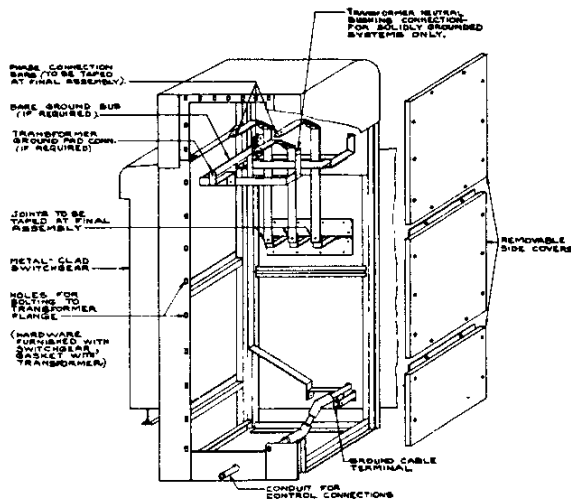
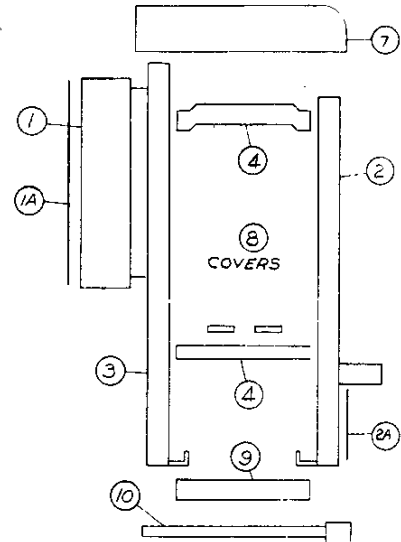

FIG. 19 (261C416)
FIG. 20 (453A738)
Transition compartments for outdoor unit substations may be one of two types (Figs. 19 and 20). These compartments are normally shipped assembled. The full height compartment (Fig. 19) cannot be disassembled for installation. The throat type compartment (Fig. 20) can be installed in any of three ways, in accordance with the following instructions:
- (2) In unit substations, the connection bars should be assembled in the transition compartment (Figure 19 and 20) and the connections at the transformer terminals taped and painted as indicated above. The conduit for secondary circuits should also be assembled in or below the transition compartment.